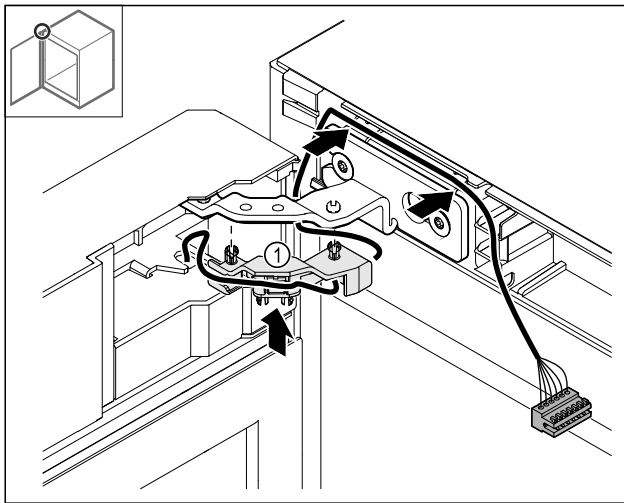

Fig. 49
- ▶ Push the cable holder Fig. 49 (1) into the hinge.